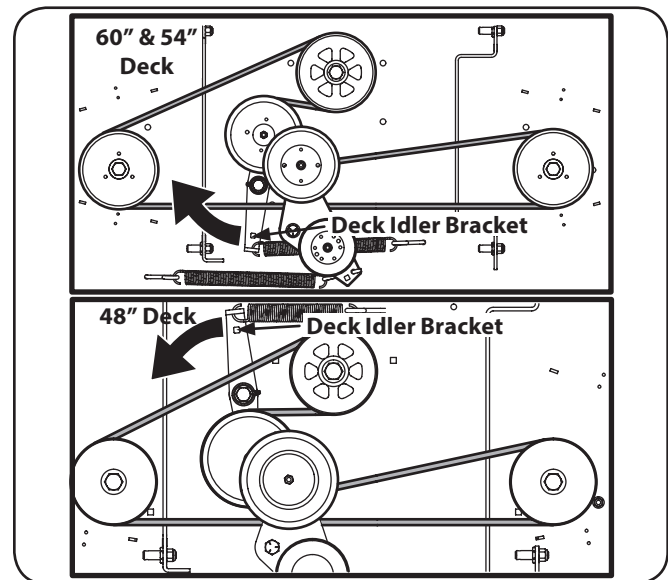

Figure 7-7
5. Using a ½" drive insert the male end into the ½" square opening in the deck idler assembly and rotate the idler clockwise on the 60" and 54" decks and counter-clockwise on the 48" deck. See Figure 7-7. While holding the deck idler, loosen the deck belt from the pulley and slide the belt away from the pulley.
6. Route the new belt as shown in Figure 7-7. Then reinstall the deck and PTO belt as instructed on page 34.